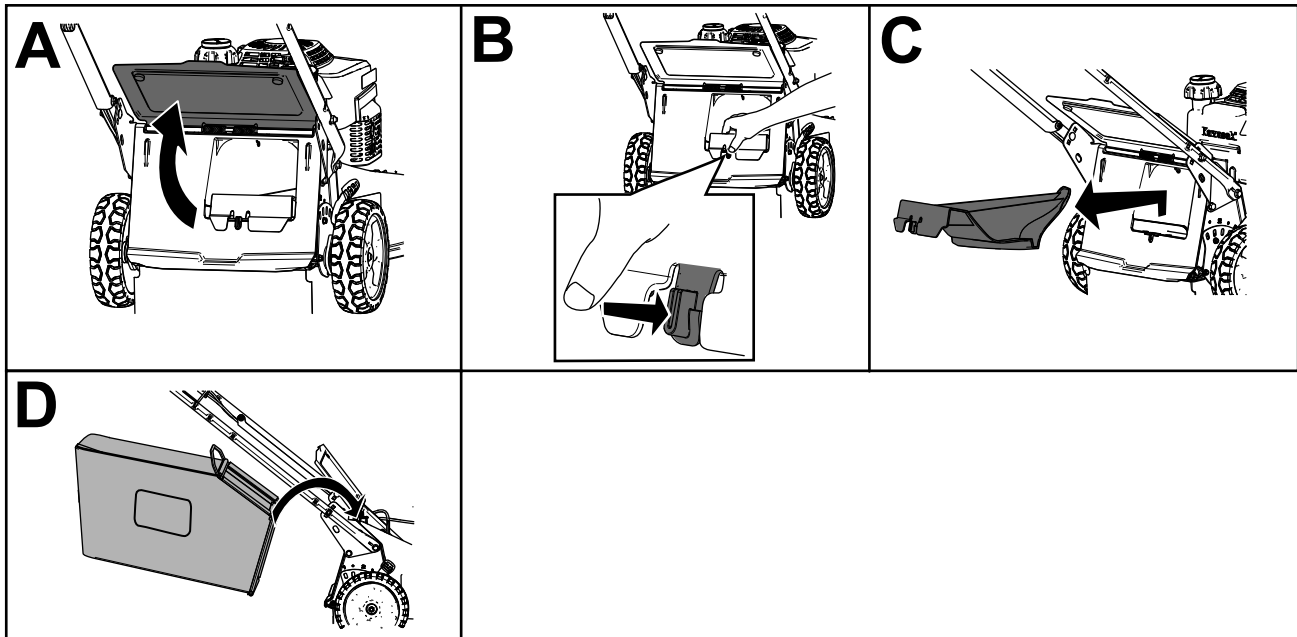

Figure 21
2. Raise and hold up the rear deflector (A of Figure 21).
3. Remove the rear-discharge plug by pushing in the latch with your thumb and pulling the plug out from the machine (B and C of Figure 21).
4. Install the bag-rod ends into the notches at the base of the handle, and rock the bag back and forth to ensure that the bag-rod ends are seated at the bottom of both notches (D of Figure 21).